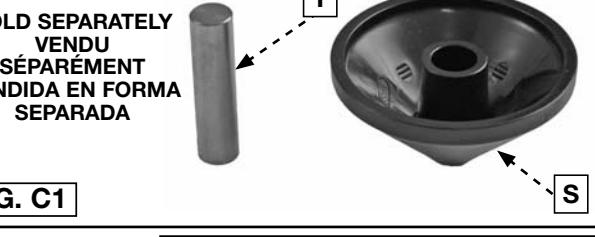

FIG. C1
If you need to adjust, change, or replace the subbase, a centering tool (sold separately) is recommended, refer to **Accessories**. The centering tool consists of a cone (S) Fig. C1 and a pin (T). To adjust the subbase, follow the steps below.
1. With motor clamped into the base, insert the pin (T) Fig. C1 into the collet and tighten the collet nut.